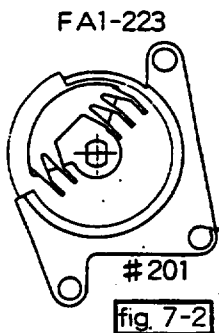

fig 7-2
- Fig. 7-2 shows how to install FAI-223.